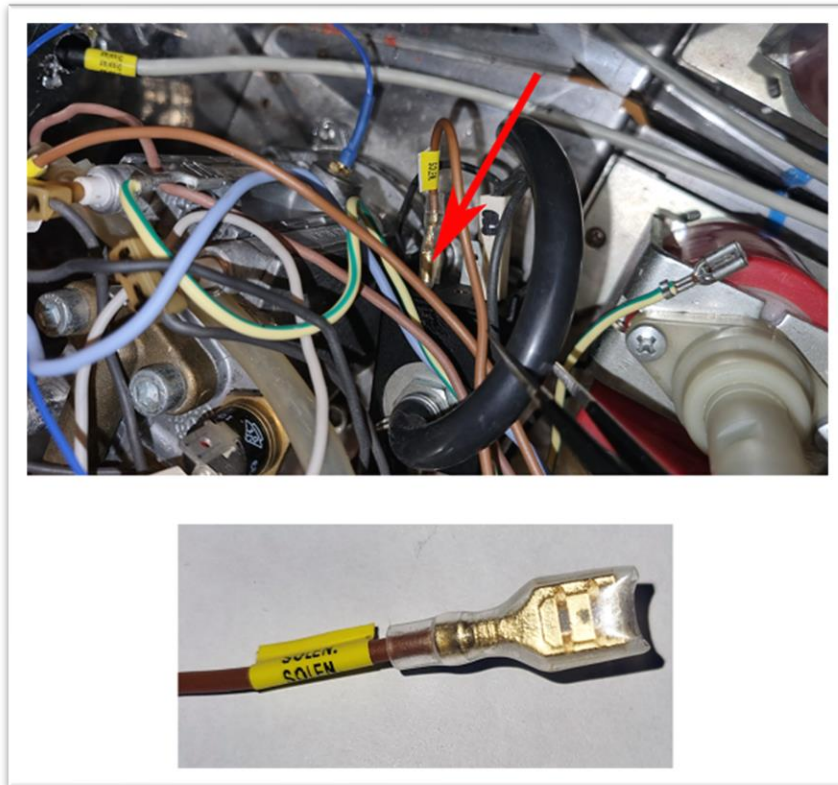

Fig. 10.7
- SOLENOID connector will go to 3 way valve. If you don't have the 3 way valve then this cable does not need to be connected. Insulate it. (fig. 10.7)